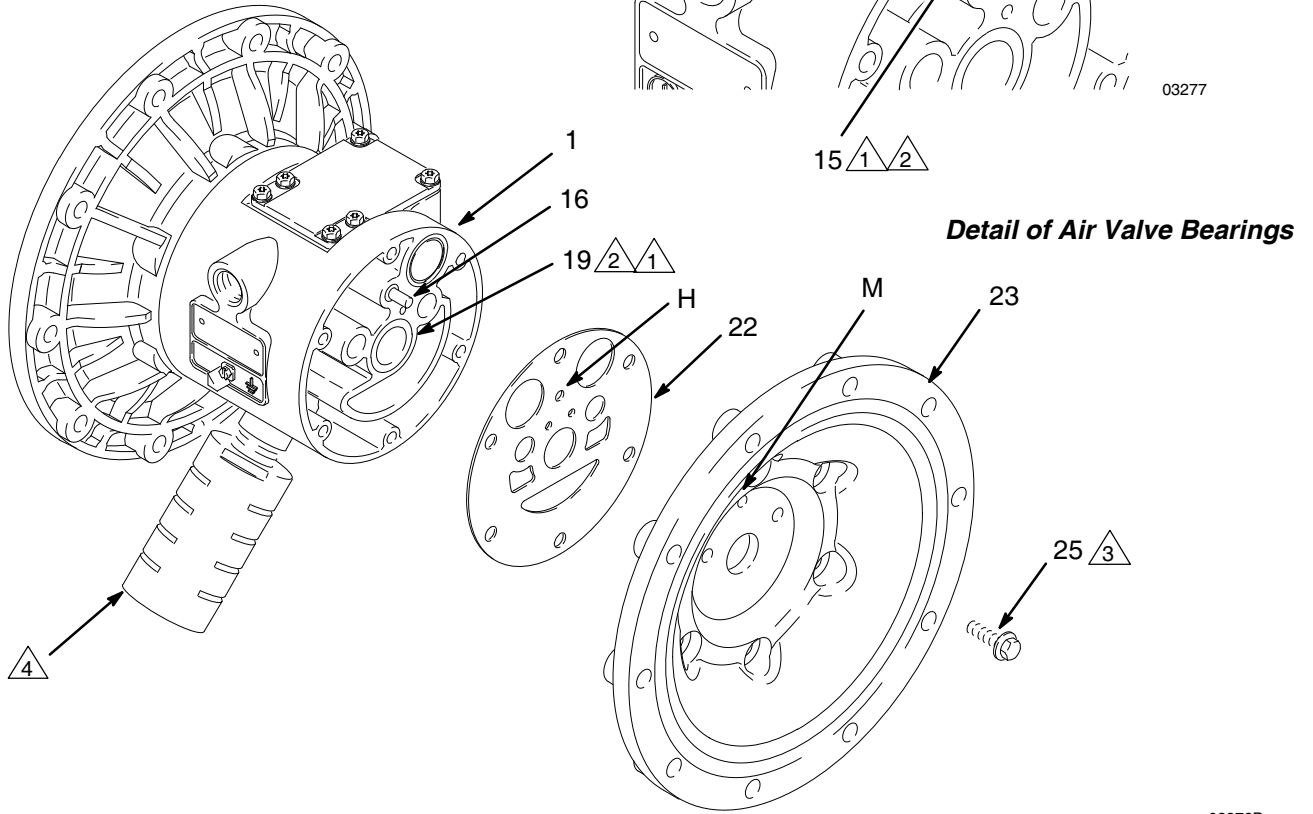

FIG. 13
- NOTE:** If you are removing only the diaphragm shaft bearing (19), skip step 4.
5. Using a 10 mm socket wrench, remove the screws (25) holding the air covers (23) to the center housing (1). See FIG. 13.
6. Remove the air cover gaskets (22). Always replace the gaskets with new ones.
7. Use a bearing puller to remove the diaphragm shaft bearings (19), air valve bearings (12) or pilot pin bearings (15). Do not remove undamaged bearings.
8. If you removed the diaphragm shaft bearings (19), reach into the center housing (1) with an o-ring pick
1. If removed, install the shaft u-cup packings (402*) so the lips face **out** of the housing (1).
2. The bearings (12, 15, and 19) are tapered and can only be installed one way. Insert the bearings into the center housing (1), **tapered end first**. Using a press or a block and rubber mallet, press-fit the bearing so it is flush with the surface of the center housing.
4. Align the new air cover gasket (22) so the pilot pin (16) protruding from the center housing (1) fits through the proper hole (H) in the gasket.
5. Align the air cover (23) so the pilot pin (16) fits in the middle hole (M) of the three small holes near the center of the cover. Apply medium-strength (blue) thread locker to the threads of screws (25), and install the screws handtight. See FIG. 13. Using a 10 mm socket wrench, torque the screws oppositely and evenly to 130-150 in-lb (15-17 N•m).